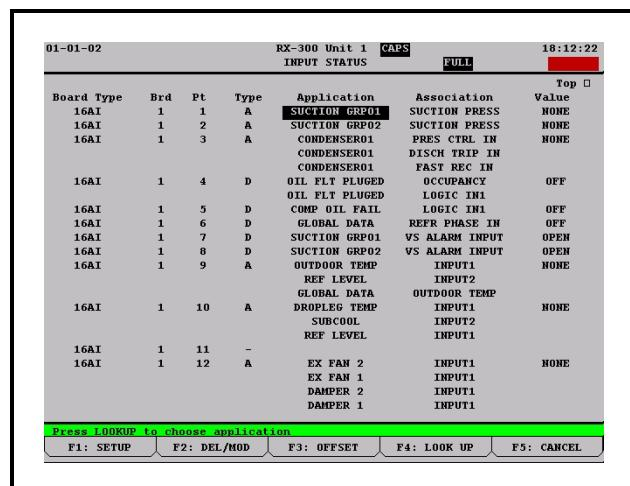

Figure 9-4 - Input Status Screen
Open the Analog Input screen by selecting an Analog (A) input from the Input Status screen Figure 9-4 and pressing **F1** (SETUP).
The Analog Input screen Figure 9-4 is where sensor types, units, and default values are specified for analog input points.
Open the Digital Input screen by selecting a Digital (**D**) input from the Input Status screen **Figure 9-4** and pressing **F1** (SETUP).